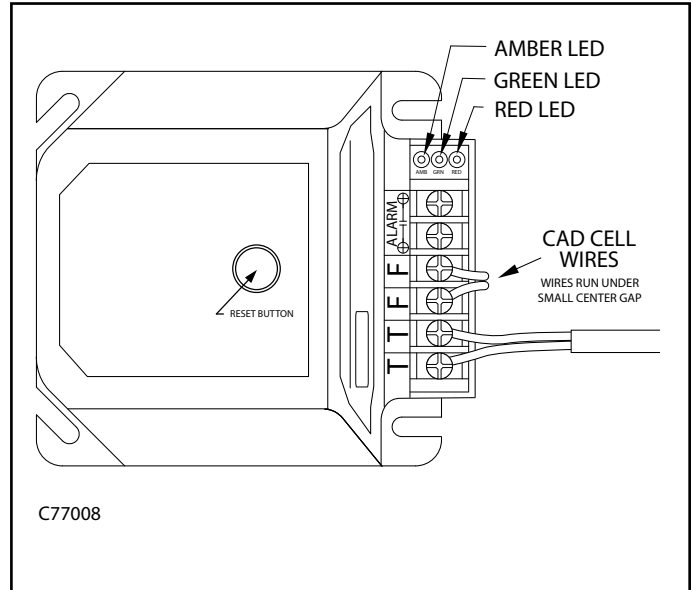

Figure 7A - Oil Primary Control for CB-200-CTB
1. Refer to Figure 7A.
ATTENTION: It is very important that the "F" and "T" terminals of the Oil Primary Control are wired exactly as shown in Figure 7A.